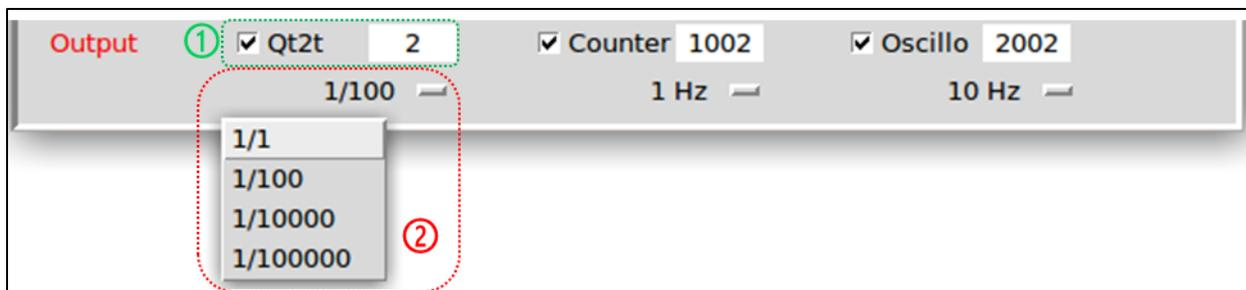

Figure 26: decimation of QT2T data
The experimenter can store or display all "QT2T" data processed by the QT2T module by enabling data output (cf. Figure 26 ①) and selecting 1/1 (cf. Figure 26 ②). But, when the event rate is too high and saturates the FASTER acquisition, the user can choose to store a percentage of this rate: one event data every 100 event data is sent, or every 10^4 event data, or one event data every 10^5 event data. With this decimation parameter, the acquisition efficiency can be controlled.
- **myChannel_CALC**: depends on the decimation parameter (cf. Figure 26).
If QT2T data decimation is 1/1 (Figure 26), the dead time of the “QT2T” data is equal to